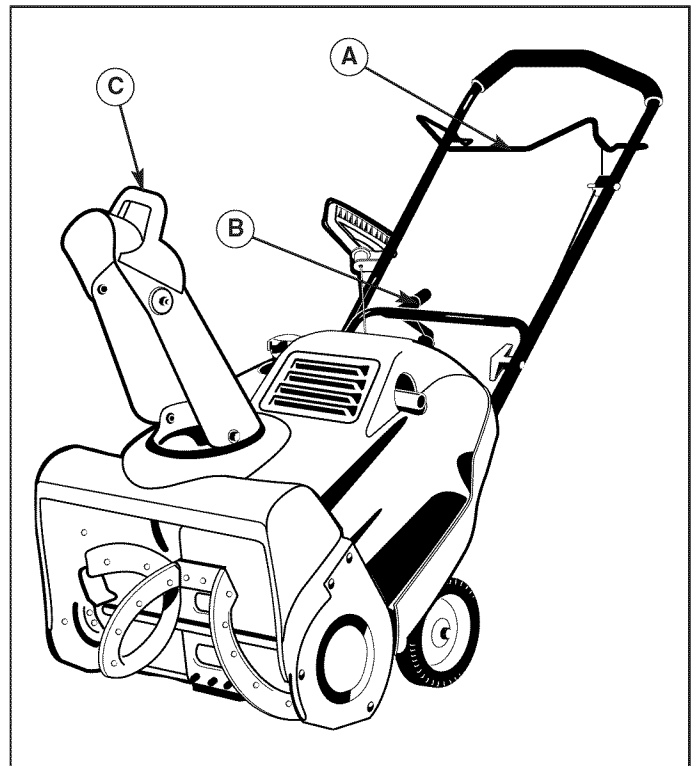

Figure 4. Snowthrower Controls
**B. Chute Direction Control** - The Chute Direction Control (B, Figures 4&5) allows the discharge chute to be rotated to throw snow in the desired direction. Snow may be thrown at any angle from straight left to straight forward, to straight right.
**C. Chute Deflector** - Controls the distance snow is thrown. Tilting the Chute Deflector (C, Figure 4) UP provides a higher stream and greater distance, while tilting the deflector DOWN provides a lower stream and less distance.
3. Check the Auger Control (see A, Figure 4) for proper operation. If adjustment is required, see the Service section (pages 13-15) for procedures.
4. Check the Chute Direction Control (B, Figure 4) for proper operation. The discharge chute should rotate freely in both directions. See the Service section for adjustment procedures and troubleshooting.
5. Check the Chute Deflector (C, Figure 4) for proper operation. The deflector should pivot freely up and down. See the Service Section for procedures.